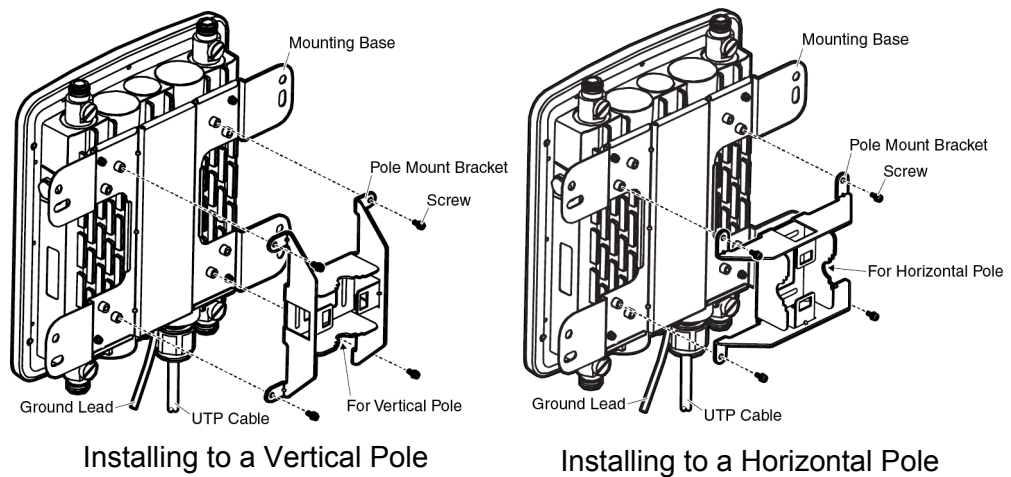

Figure 20. Attaching the Pole-Mount Bracket to the Mounting Base
3. Orient the pole-mount bracket for installing to either a vertical pole or a horizontal pole. Refer to Figure 20.